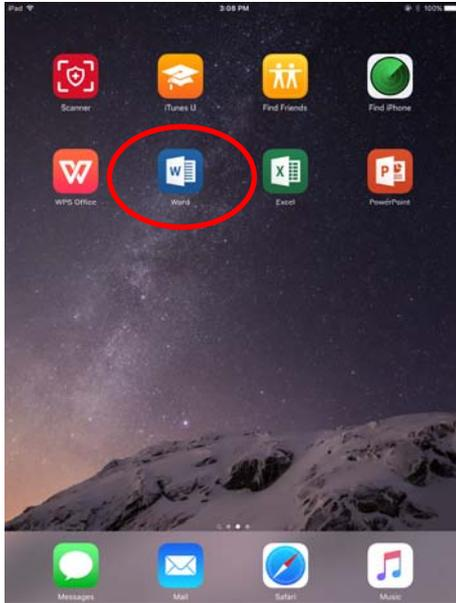

Figure 37
2.1 Install and run "Word", as shown in Figure 37;